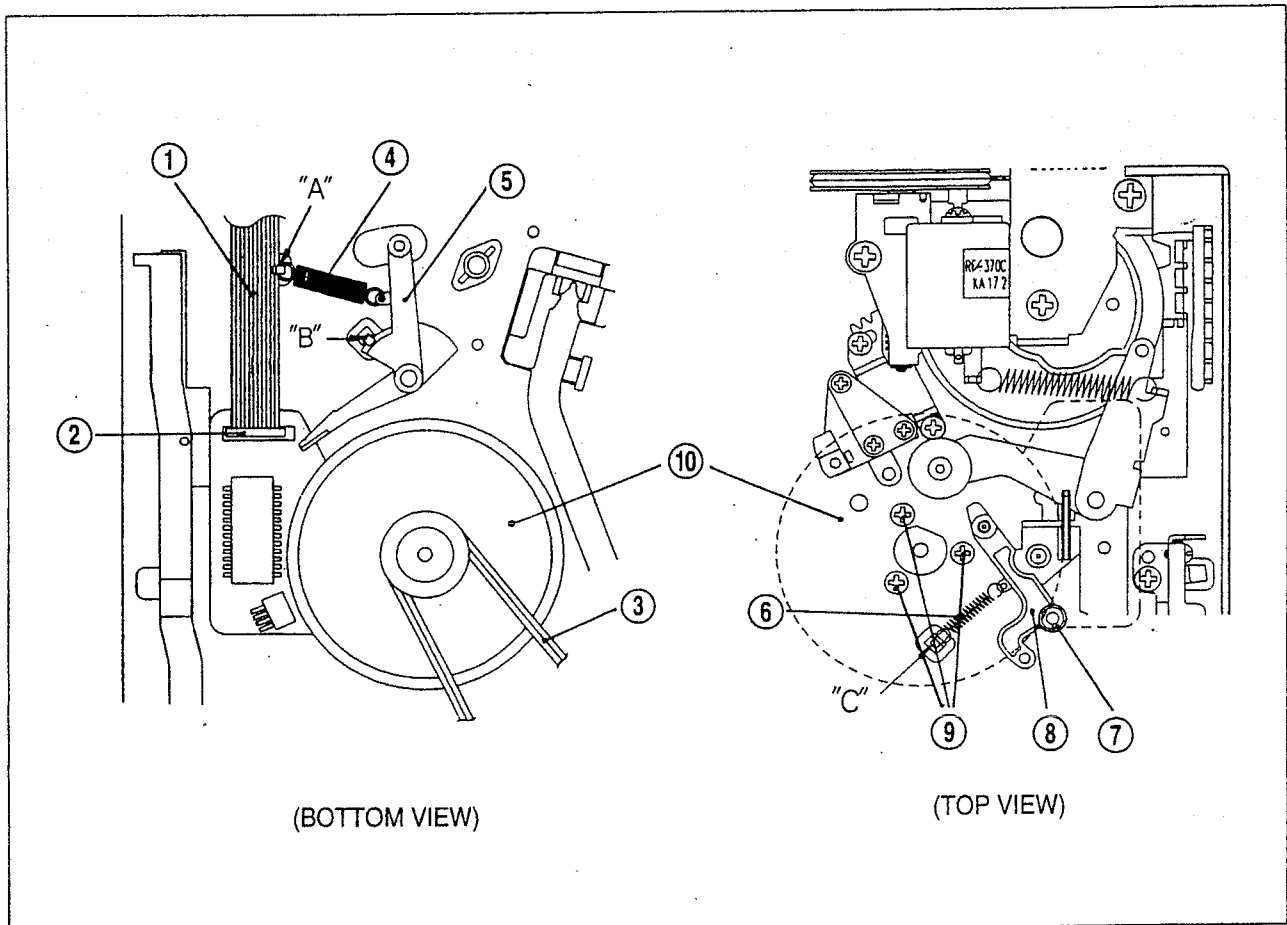

Fig. 3-9
10. REPLACEMENT OF THE CAPSTAN MOTOR (See Fig. 3-9)